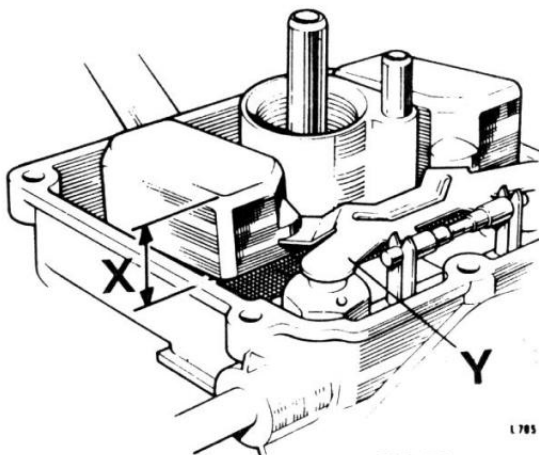

FIG. 72
16. With the needle valve on its seating and the tab on the float carrier contacting the needle valve, measure the distance "X" between the carburettor flange face and the highest point on the floats. **Fig. 72.**